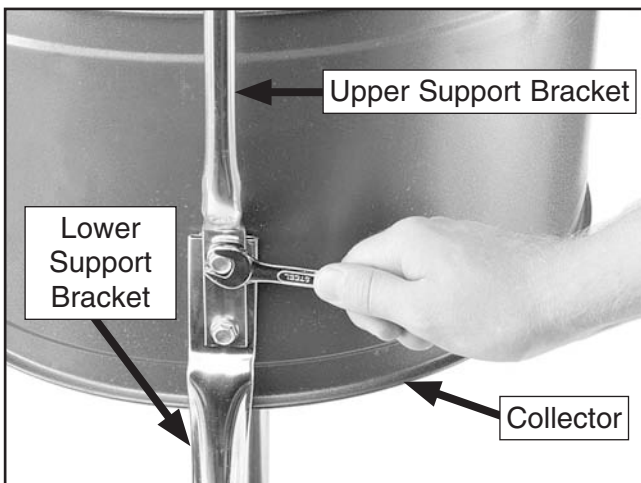

Figure 8. Mounting collector to brackets.
6. Place the upper support brackets over the lower support brackets, and secure them with (4) $\frac{5}{16}$ "-18 x $\frac{1}{2}$ " flange bolts, as shown in **Figure 8**.